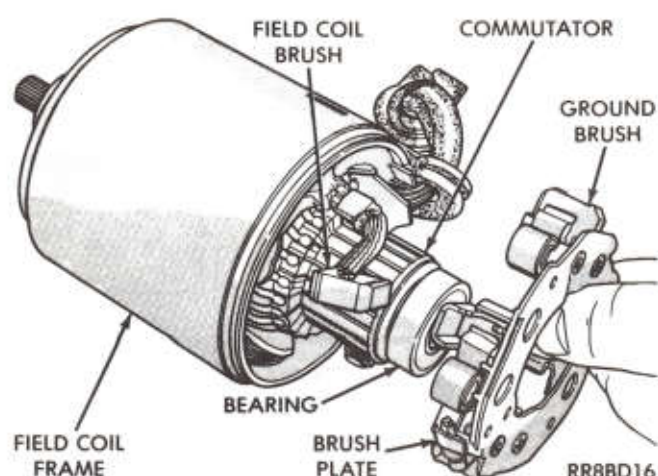

Fig. 11—Remove or Install Brush Plate
(10) Remove the brush plate from the motor assembly (Fig. 11).